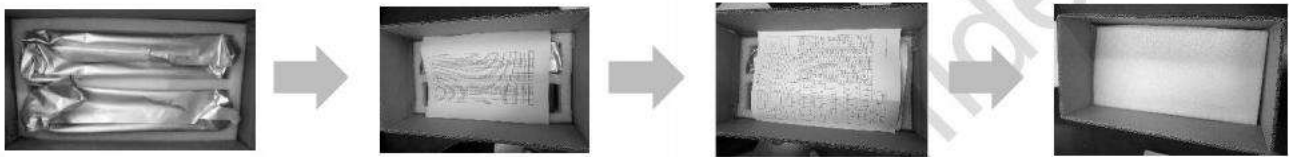

Figure 4-6. Carton Packaging
The carton packaging is shown as in Figure 4-6. Put two Foil bags ④ into one EPE inner box ②, and then put the EPE inner box ② and Pearl cotton partition ⑥ into a carton ①. The packaging capacity of a carton is: 150*2=300 sets of SOM.